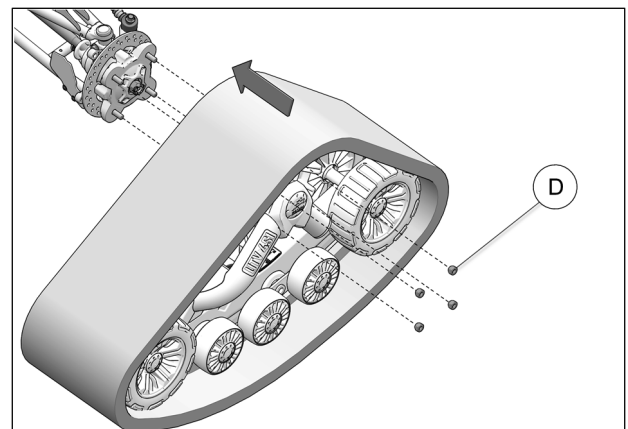

Fig. 13
7. Using the provided M12 lug nuts (D), secure undercarriages to the front wheel hubs. See Fig. 13